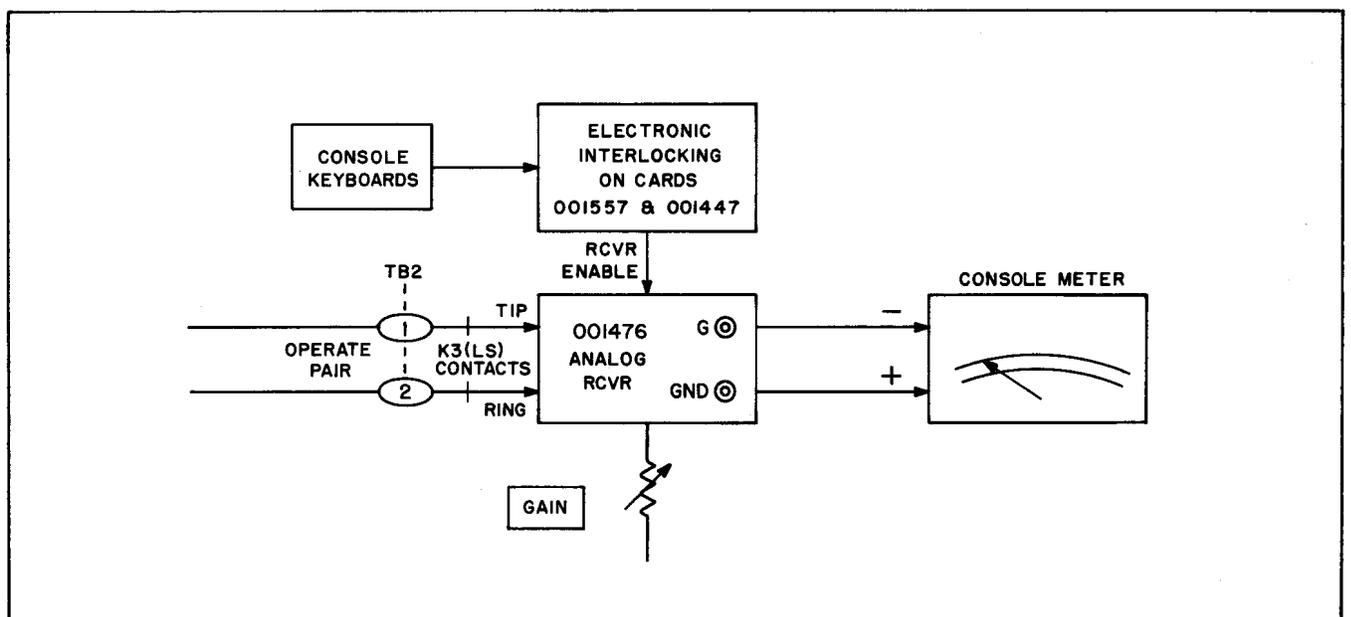

Figure 8 - Block Diagram of Components Comprising Master Station's Analog Channel
3.06 ANALOG CHANNEL - The procedure for troubleshooting the analog channel components is as follows, and is referenced to Figure 8: